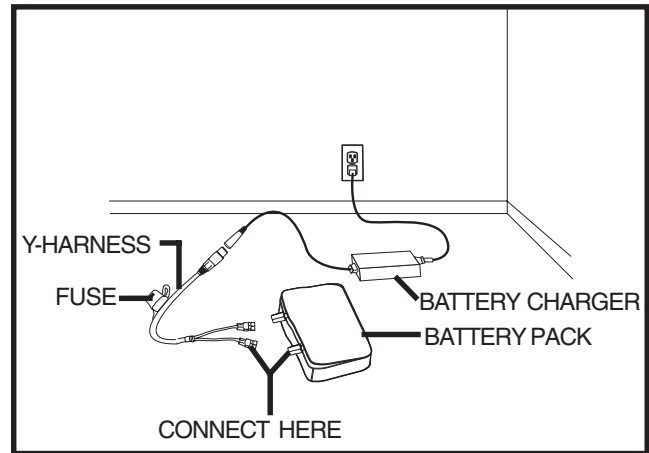

Figure 11. Off-Board Battery Charger
3. Connect the Y-harness to the battery harnesses that extend from the battery pack. See figure 11.